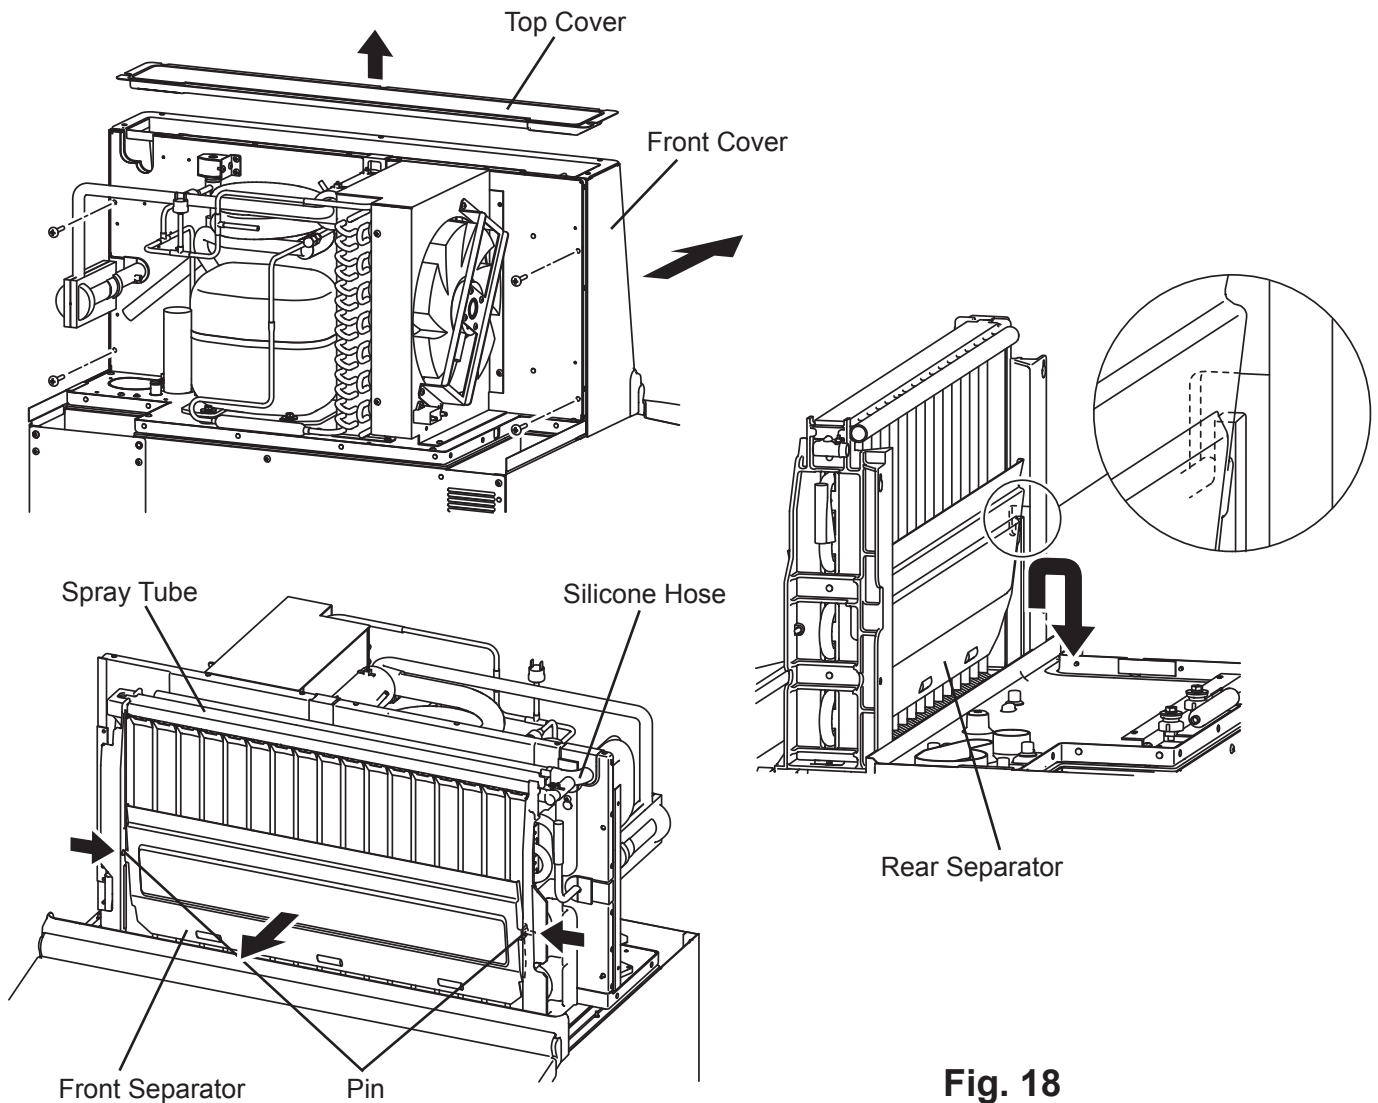

Fig. 18
- 2) Remove the Top Panel, Rear Panel and Side Panels (L) (R).
- 3) Remove the Top Cover and Front Cover. See Fig. 18.
- 5) Remove the Front Separator by pushing the Pins inserted into both sides of the Evaporator Bracket toward the center. See Fig. 18.
- 6) The Rear Separator is hooked on the groove in the Evaporator Bracket. Remove the Rear Separator by lifting it up and down. See Fig. 18.